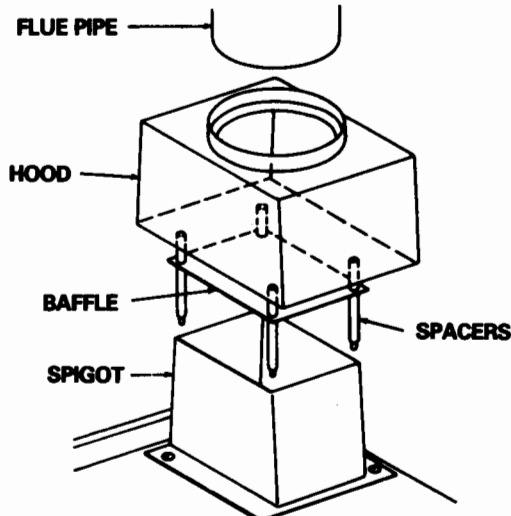

Fig. 5 – Appliance Draught Diverter Open Flue
1. Draught Diverter Assembly — See Fig. 5
2. Assemble and locate the flue draught diverter assembly on the top plate. See Fig. 5.
3. Fit a 600mm (24in) minimum vertical height of flue pipe into the draught diverter flue socket, sealing joint with fire cement. See Fig. 5.